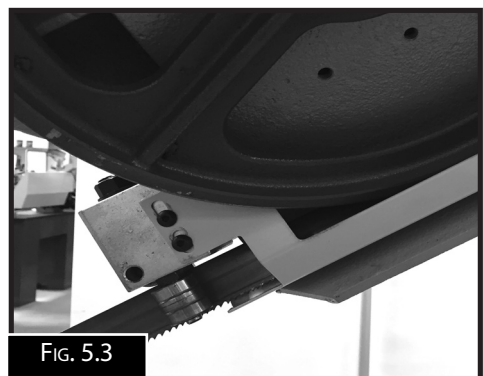

FIG. 5.3
5. Remove the blade guard on the movable roller guide by removing the two button head cap screws. (Fig.5.3)